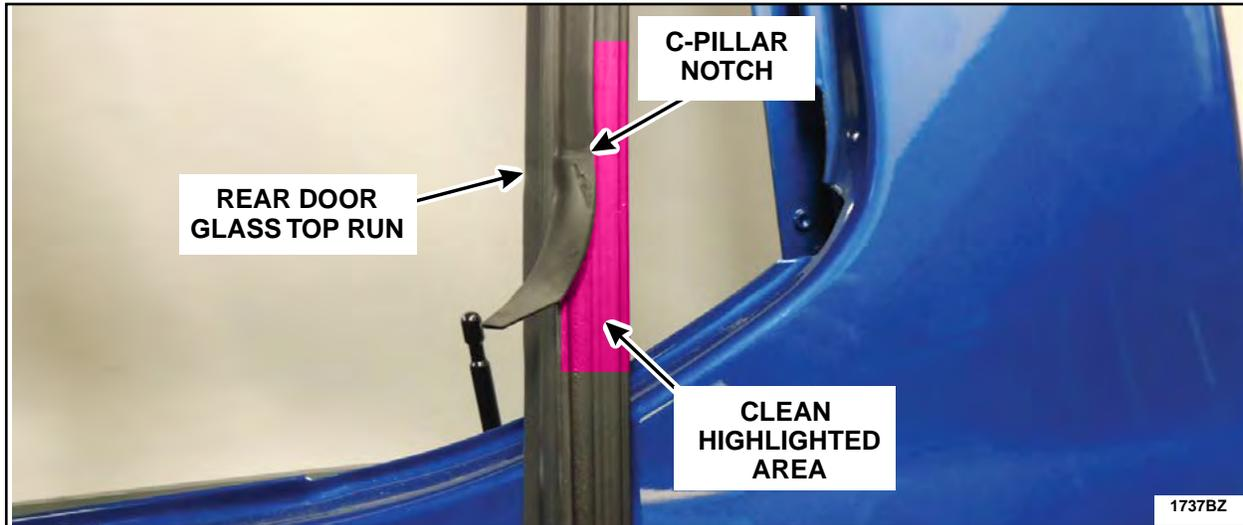

FIGURE 72
14. Clean the highlighted area of the rear door glass top run with isopropyl alcohol and a clean shop cloth. See Figure 72.